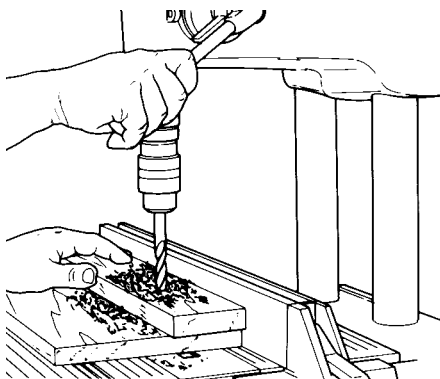

Figure C-25
- Turn on the Mark V, adjust the speed, and feed the drill bit into the stock slowly. See Figure C-25. When drilling deep holes, retract the drill bit now and then to clear chips from the hole. When you feel the depth control stop the quill, retract the drill bit. Turn the speed dial to "Slow" and turn off the machine. Let it come to a stop, then remove the stock.